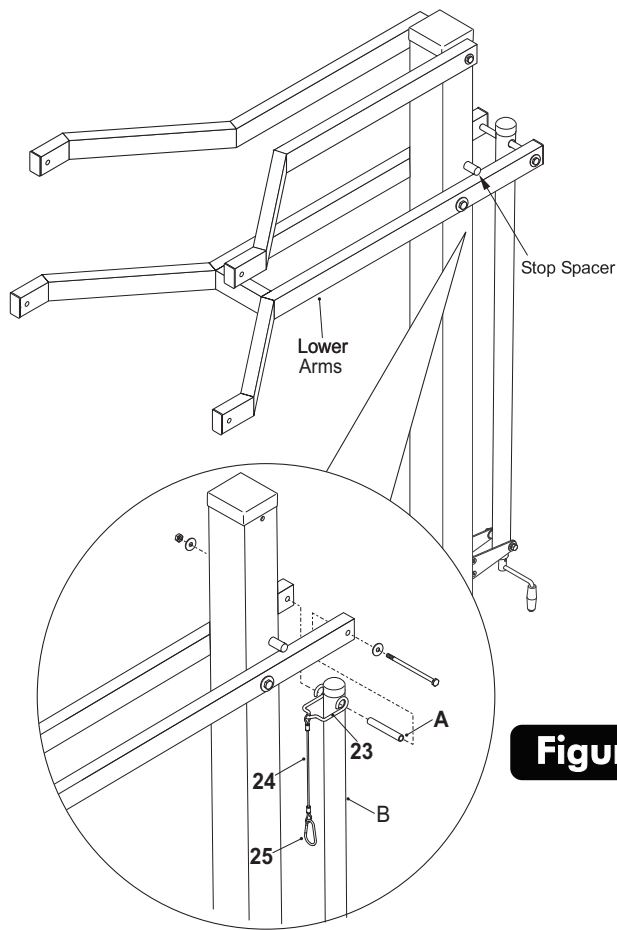

Figure 1
1. Lower unit to the lowest position by turning Actuator handle until the lower arm makes contact with Stop Spacer. See Figure 1.
2. Remove bolt and nut that attaches Actuator (B) to lower arms and place cable stirrup (#23) over the top of the Actuator. Slide Pivot tube (A) through Stirrup and Actuator until equal amounts stick out through both sides of Actuator. Re-attach with bolt and nut as shown in Figure 1.